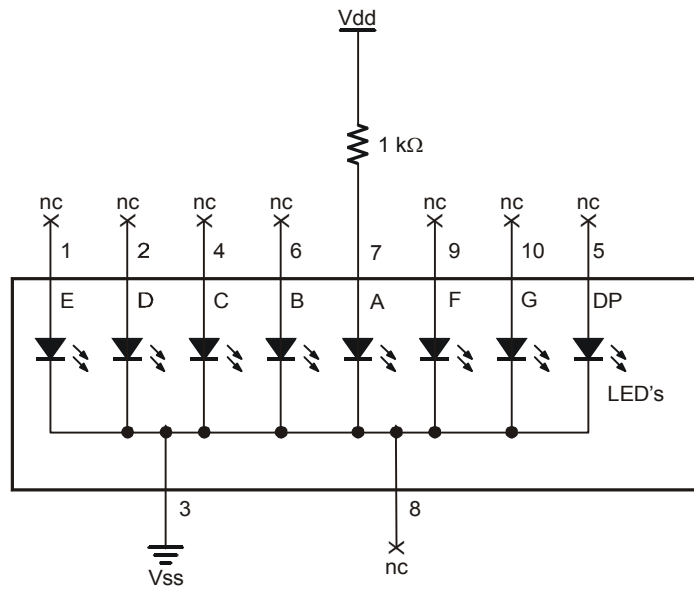
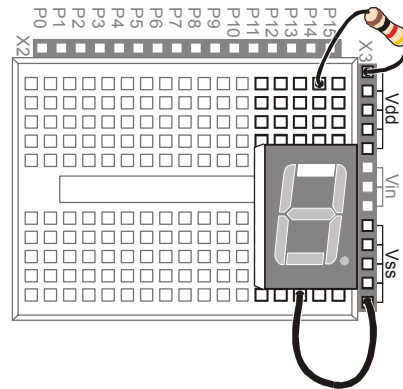

Figure 6-4
Figure 6-5
- ✓ With power disconnected from your Board of Education or HomeWork Board, build the circuit shown in Figure 6-4 and Figure 6-5.